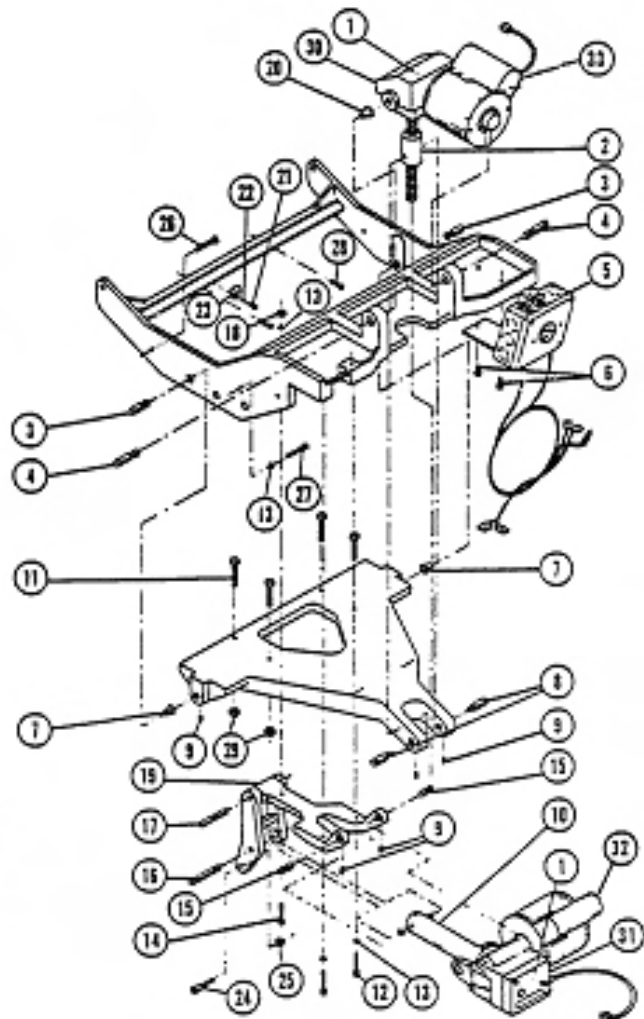

Figure 1-5. Cradle assembly.
(4) Lubricate the seat motor screw tube located in the cradle assembly. Refer to figure 1-5, #2.
(5) Lubricate the back motor screw tube pin located in the cradle assembly. Refer to figure 1-5, #16.